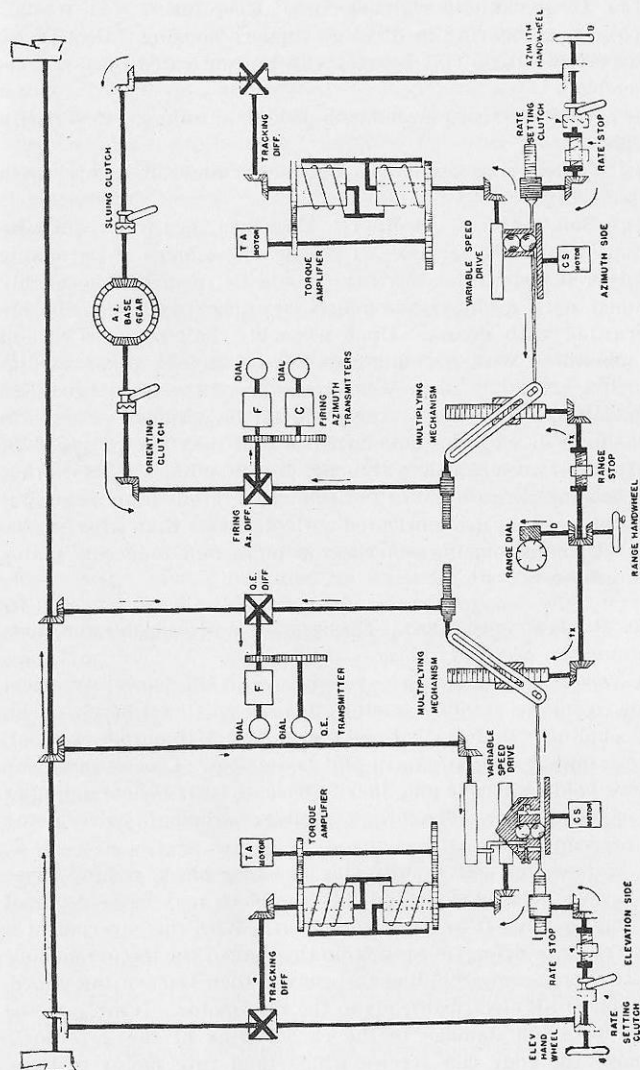

FIGURE 30.—M5 director—schematic diagram.
b. Telescope lenses.—(1) Special care must be exercised to keep exposed sides of lenses clean and dry. Dust and moisture will pit and discolor surfaces if permitted to remain on them.
(2) Remove dust from lenses by brushing lightly with a camel's-hair brush. Use of cleaning cloth is prohibited.
(3) Remove grease or oil by applying liquid lens-cleaning soap or alcohol sparingly and wiping dry with lens tissue paper. If liquid lens-cleaning soap or alcohol is not available, breathe heavily on lens and wipe dry as directed above. Repeat the procedure until lens is clean.
(4) Do not wipe lenses with fingers.
d. Internal lubrication.—(To be done only by ordnance or qualified battery personnel.) Internal lubrication of M5 director will only be done periodically or when deemed necessary. (See fig. 30.)
(1) Rate motor governor ball bearing. Maintain a light film.
(2) Torque amplifier input drum spindle bearings and input shaft bearing. Maintain a light film.
(3) Differentials. Several drops.
(4) Multiplying and variable speed mechanism rails. Several drops.
(5) Variable speed mechanism slide. Several drops.
(6) Use only grease, lubricating special at the following points: